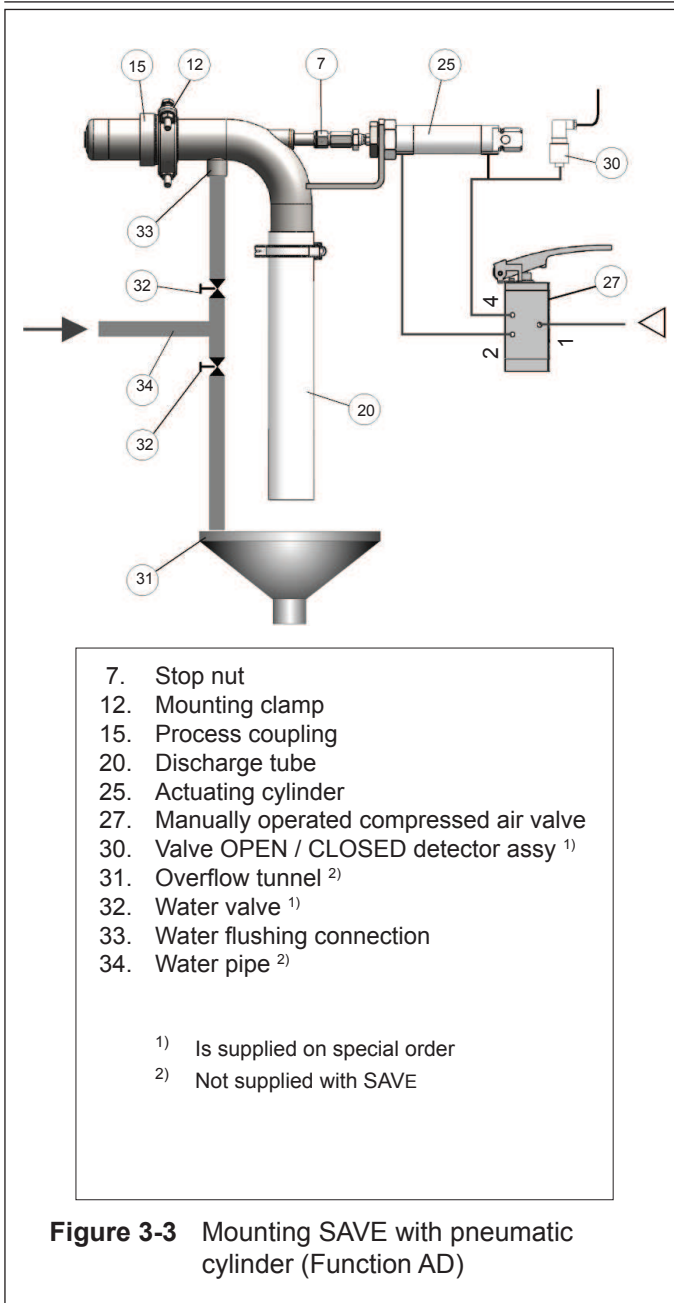

Figure 3-3 Mounting SAVE with pneumatic cylinder (Function AD)
First place the PTFE coupling seal in its groove. Then mount SAVE SA with clamp (12) as shown in Figures 3-3, 6-1 and 6-2. Apply 6,5Nm force to tighten the screws.
(20) in Figures 3-3, 6-1, 6-2 and 6-3
In this way the sample can be taken out without splashing. If SAVE is installed at the location with difficult access e.g. at a great height in the pipework, you have to use a longer discharge tube or metal pipe (Figure 3-3). Install a funnel below the sampling point. To prevent overflowing pulp from getting to the floor, install a pipe having at least 60 mm diameter from the funnel to sewer.
Pneumatic connections are made as shown in Figure 3-3, connections G1/8.
3.3.2 Connection for water flushing (33), Figure 3-3
3.3.3 Closed/Open detector (30), Figure 3-3
Adjust the stop nut (7, 14 mm jaw width, Figure 3-3, 6-1, 6-2 and 6-3) to adjust the valve stroke for 1.0 to 1.5 l/s sample discharge rate. If the valve stem is adjusted for maximum opening, the discharge rate may also be less than 1 l/s.